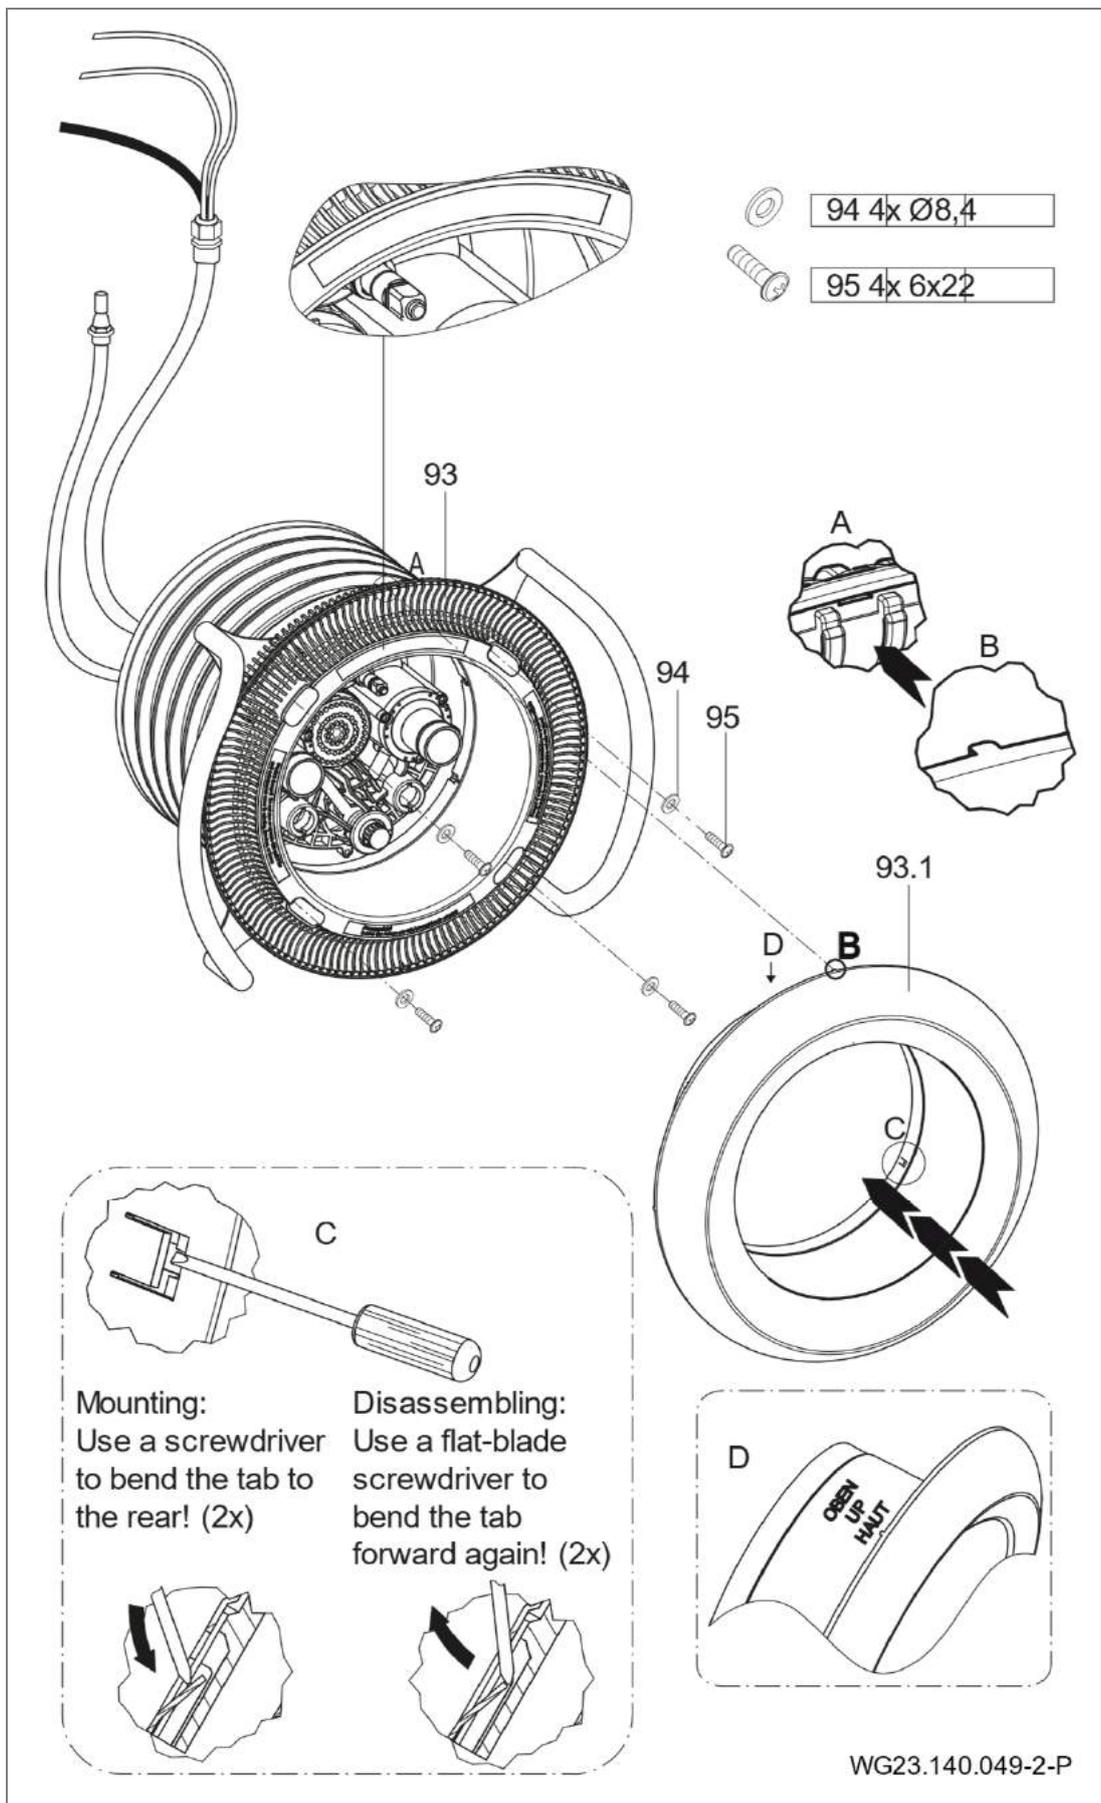
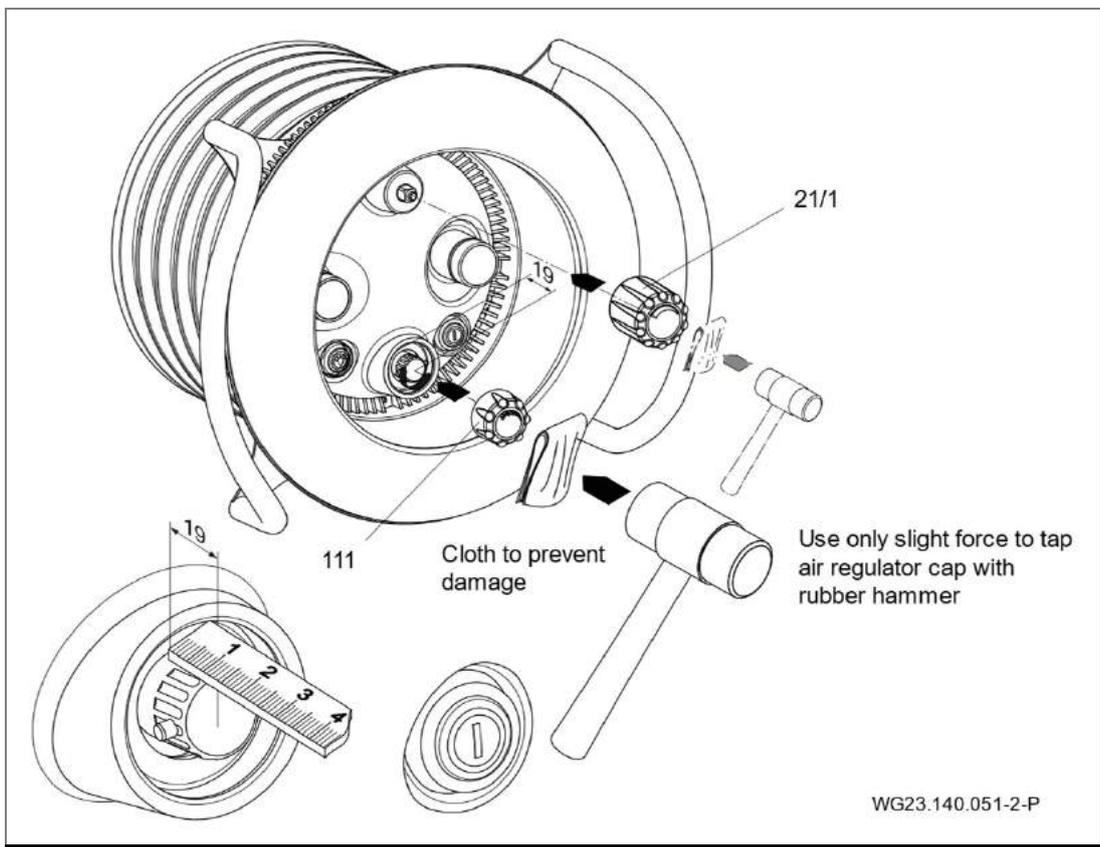

Fig. 18
Fig. 20
9. Place the suction panel (93) on the support ring (28) and fasten with four plain washers (94) and four tapping screws (95). (Fig. 18)
- 10. Align the stainless steel cover with the protruding centring nubs to the existing recesses of the suction panel (93) and press them together by hand. Observe the "UP" marking on the stainless-steel cover. To fasten the cover use a screwdriver to bend the two offset tabs towards the back. (Fig. 18)
- 12. Slide one O-ring (37) onto each pneumatic button (38/1; 38/2). Fasten the pneumatic hoses to the corresponding buttons using the hose clamps (46). Insert the two pneumatic buttons through the light cover (110) in the nozzle housing and lock by turning it clockwise. (Fig. 20)
1. Remove the caps for the volume regulator (21/1) and air regulator (111). On the BADU JET Primavera Deluxe, the grub screw must be loosened before pulling off the cap. See "Fig. 20"
2. Loosen the tapping screws (112) and remove the light cover (110).
3. Bend the two offset tabs on the stainless steel cover back towards the front and remove the stainless steel cover. See "Fig. 18"
4. Loosen the tapping screws (95) and remove the suction panel (93) and hand rail (70).
5. If necessary, loosen the tapping screws (61). Remove the nozzle housing (102.1). When doing so, be aware of the internal air line (4) which is fastened to the main housing (1).
6. Loosen the screws (52). Remove the handrail (70), support ring (28) and support ring seal (27).